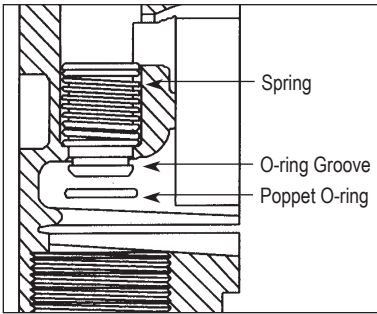

Figure 10
- b. Remove the O-ring with a small screwdriver or similar tool. Take care not to damage the poppet or O-ring. (Figure 10)
- To assemble, place the spring and poppet into the poppet cavity through the top outlet port. Compress the poppet into the housing until the poppet appears in the lower chamber. (see Figure 10) Coat the O-ring lightly with grease and slip over the poppet head. Make sure the O-ring is well-seated.